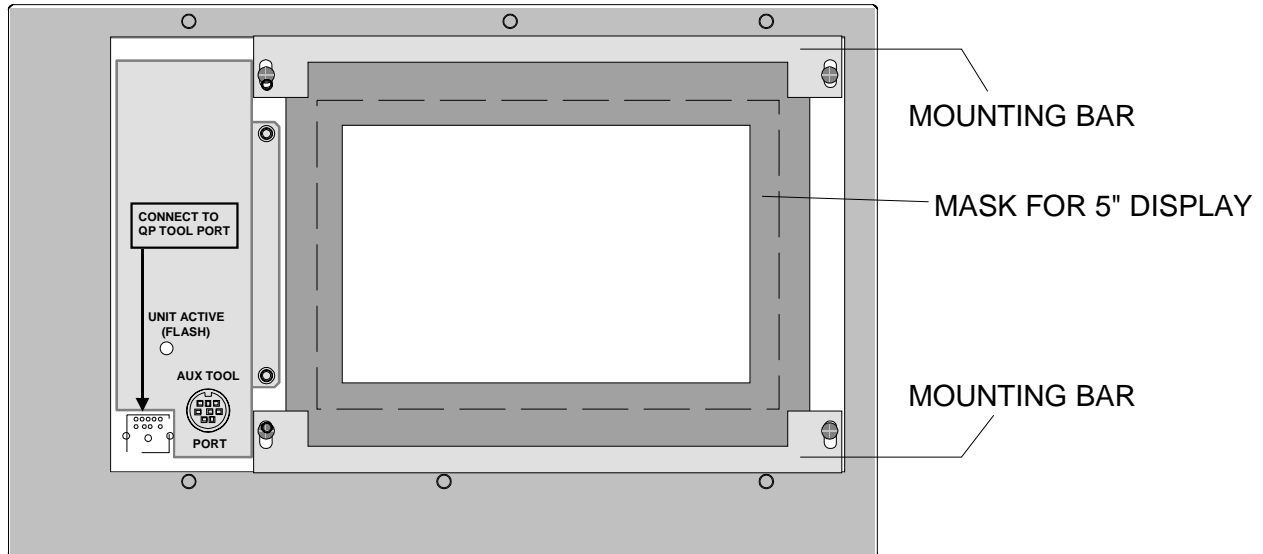

Figure 23, Keypad Rear View (Before QuickPanel Installation)
- 2) If the Keypad is to be used with a 5" QuickPanel, skip this step, and continue with step 3. If the Keypad is to be used with a 6" QuickPanel (MMI-QP2/6__), remove the 5" QuickPanel display mask from the Keypad window, as shown in Figure 23.
- 7) Attach the QuickPanel TOOL port to the Keypad port labeled "CONNECT TO QP TOOL PORT" using the interconnection cable provided, as shown in Figure 23.